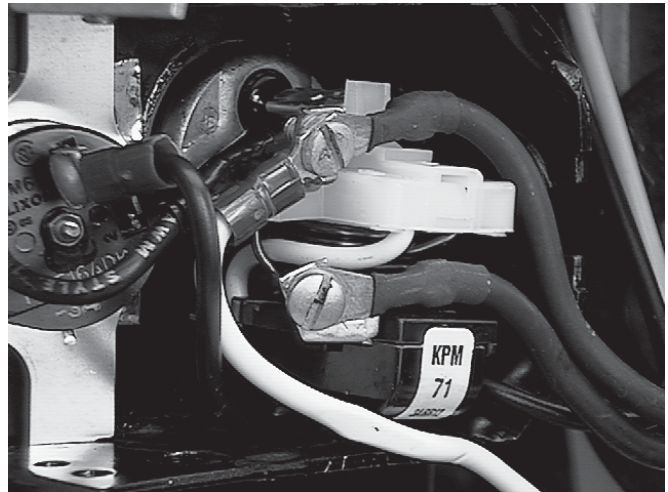

Figure 14. Compressor Connections
4. Remove the relay by pulling straight off. Remove the wire from terminal C. (Fig. 14)